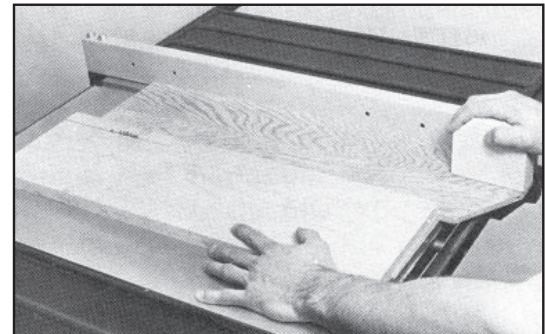
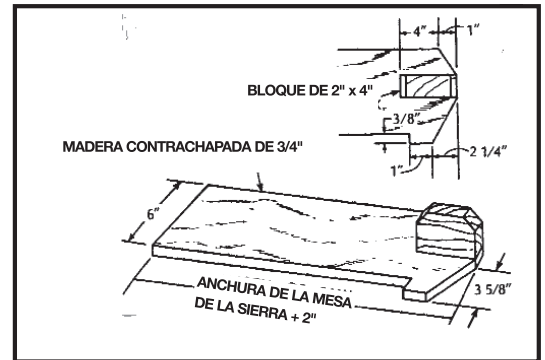

Fig. 42
Fig. 43
3. Ripping narrow pieces can be dangerous if not done carefully. Narrow pieces usually cannot be cut with the guard in position. If the workpiece is short enough, use a pushboard. When ripping material under 2 inches in width, a flat pushboard is a valuable accessory since ordinary type sticks may interfere with the blade guard. When using a pushboard, the width of the pushboard must be added to the width of the rip fence position setting. A flat pushboard can be constructed as shown in Fig. 43 and should be used as shown in Fig. 42.